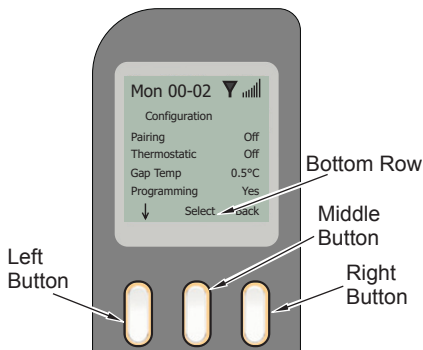

Figure 64 - Screen Changes
The screen changes depending on the input from the buttons, but the bottom row always displays the button function labels (see Figure 64). The functions of each button depends on the options available on the current screen (except for the OFF button which has always the same function).
- RIGHT (Back) button goes back to the previous screen (see Figure 64).
If "Manual" is pressed, the flame setting appears as the selected setting. In the bottom row, ↓ and ↑ appear, indicating that the flame level can be changed by pressing the left or middle button. Pressing "Back" (right button) returns to the initial screen (see Figure 64, page 29).